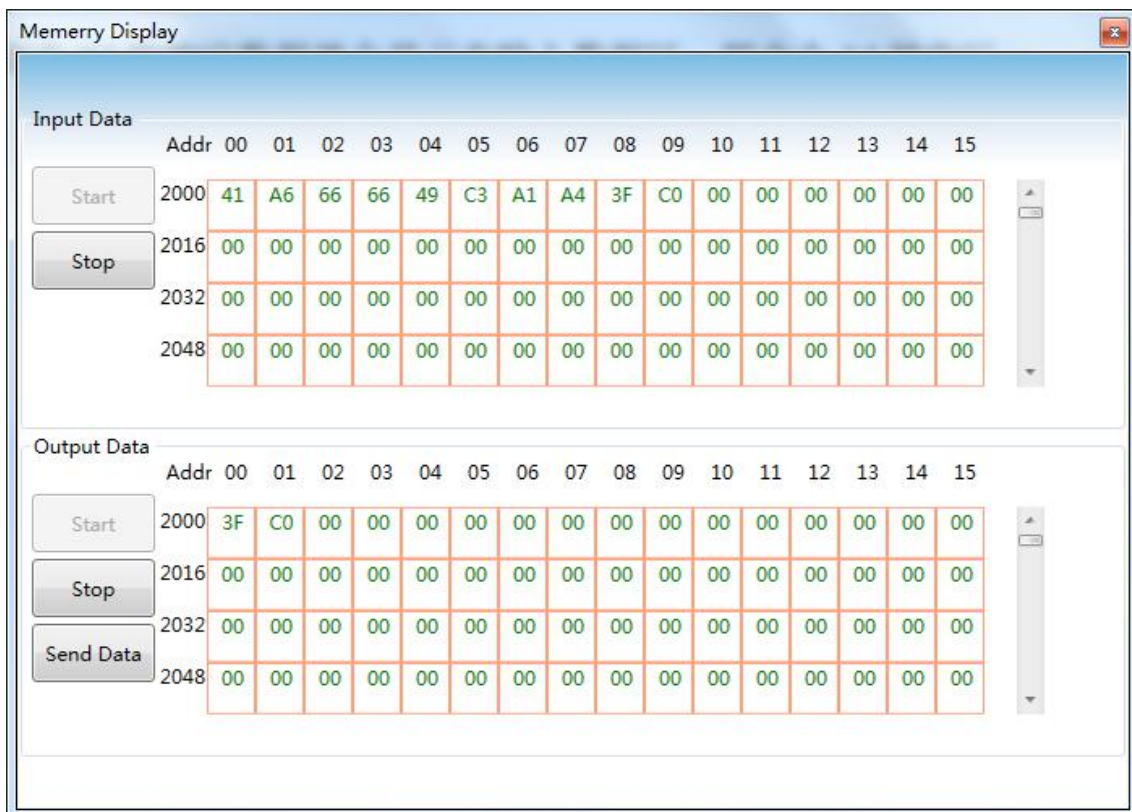

Figure 24 Memory Display
- (2) Use a serial line (or 485/422 convert serial line)to connect gateway's RS232 interface and PC serial port, and then power the gateway on, at this time, the gateway is under debugging mode.
- (3) Start configuration software, after G1003 is powered on, click  to see memory display shown as Figure 24.
As Figure 24, input and output data shall display each memory's current calue in tems of table. When the user is to modify output data, click "Stop", modify the data, and click "Send Data".